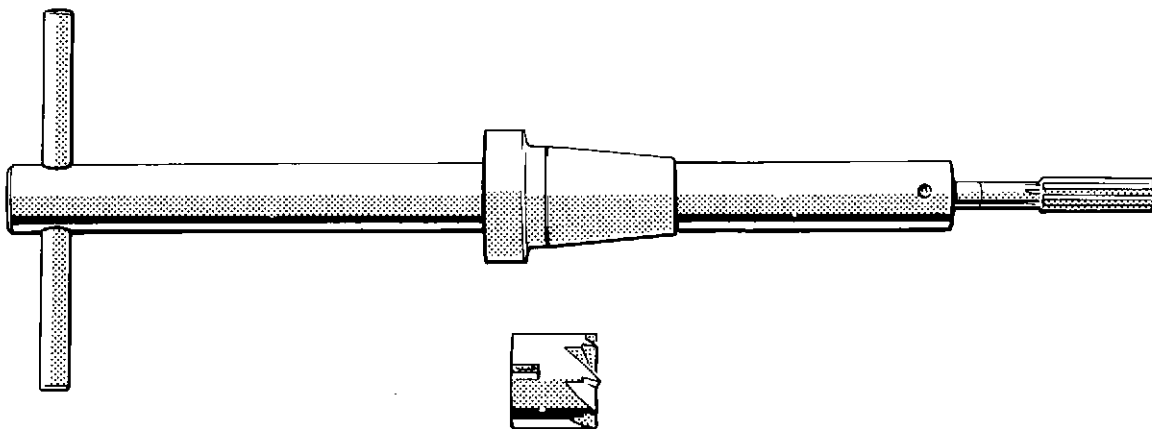

Fig. 12 Injector sleeve reamer and face cutter
- 61 Using the Extractor, GA 5123, withdraw any worn valve bridge guide (fig. 12), and clean out its cylinder head bore.
Caution : When using the seating face cutter (fig. 12), remove the minimum amount of metal necessary to restore the seating face. The maximum permissible depth of seating measured from the cylinder head top face is 104.25 mm (4.104 inches).